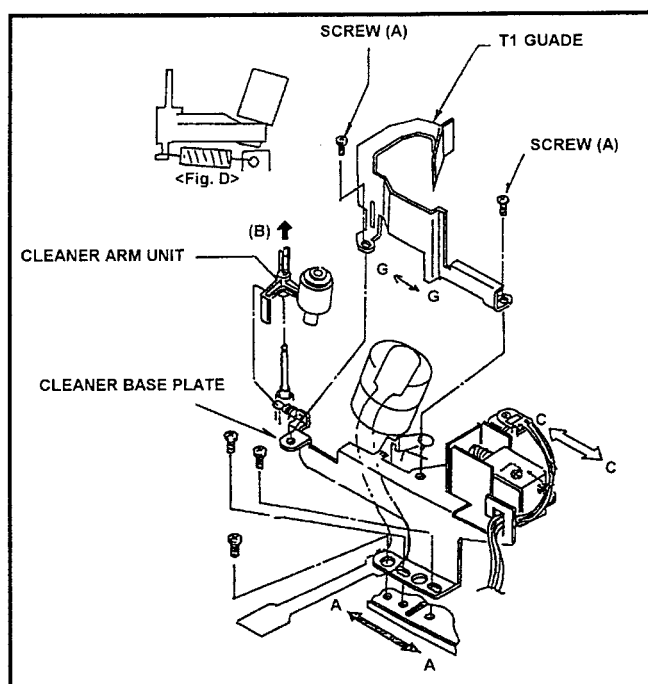

Fig. 6-8-1 Removal of Cleaner Roller Unit
2. Unscrew the 2 screws (A) and remove the T1 Guide.
3. Hang off the tip portion (B) of cleaning Arm Unit and hang off the spring from Cleaner Arm Unit, then remove the Cleaning Arm Unit as shown in Figure 6-8-1.